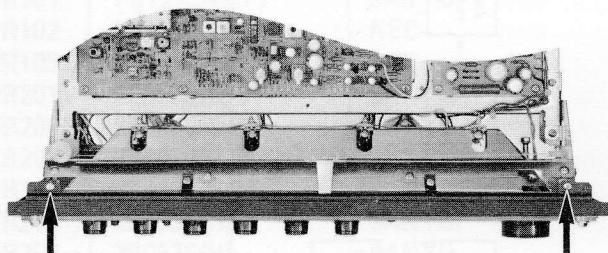

Figure B1
- Remove knobs and pull off panel. (Figure B1, B2)